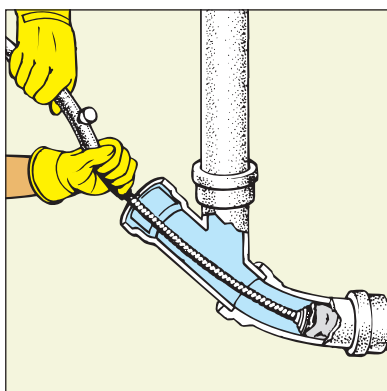

Figure 5-4:
2. **When you reach the blockage, keep turning the snake, working it back and forth to loosen the clog (see Figure 5-4).**